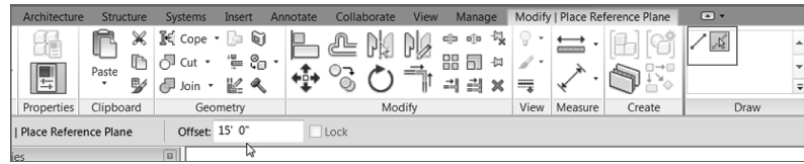

FIGURE 2.4: Offsetting a reference plane
8. On the Draw panel, click the Pick Lines icon, as shown in Figure 2.4.
9. Set Offset to 15'-0" (4500 mm) (Imperial users, remember, you can type 15, and metric users type 4500), as shown in Figure 2.4.